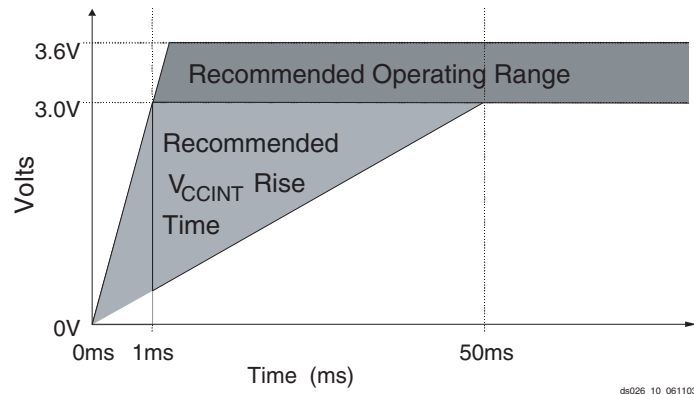

Figure 8: V_{CCINT} Power-Up Requirements
On power up, $\overline{OE/RESET}$ is held low until the XC18V00 is active (1 ms). $\overline{OE/RESET}$ is connected to an external resistor to pull $\overline{OE/RESET}$ HIGH releasing the FPGA INIT and allowing configuration to begin. If the power drops below 2.0V, the PROM resets. $\overline{OE/RESET}$ polarity is *not* programmable. See Figure 8 for power-up requirements.
- At power up, the device requires the V_{CCINT} power supply to monotonically rise from 0V to nominal voltage within the specified V_{CCINT} rise time. If the power supply cannot meet this requirement, then the device might not perform power-on-reset properly. See Figure 8.